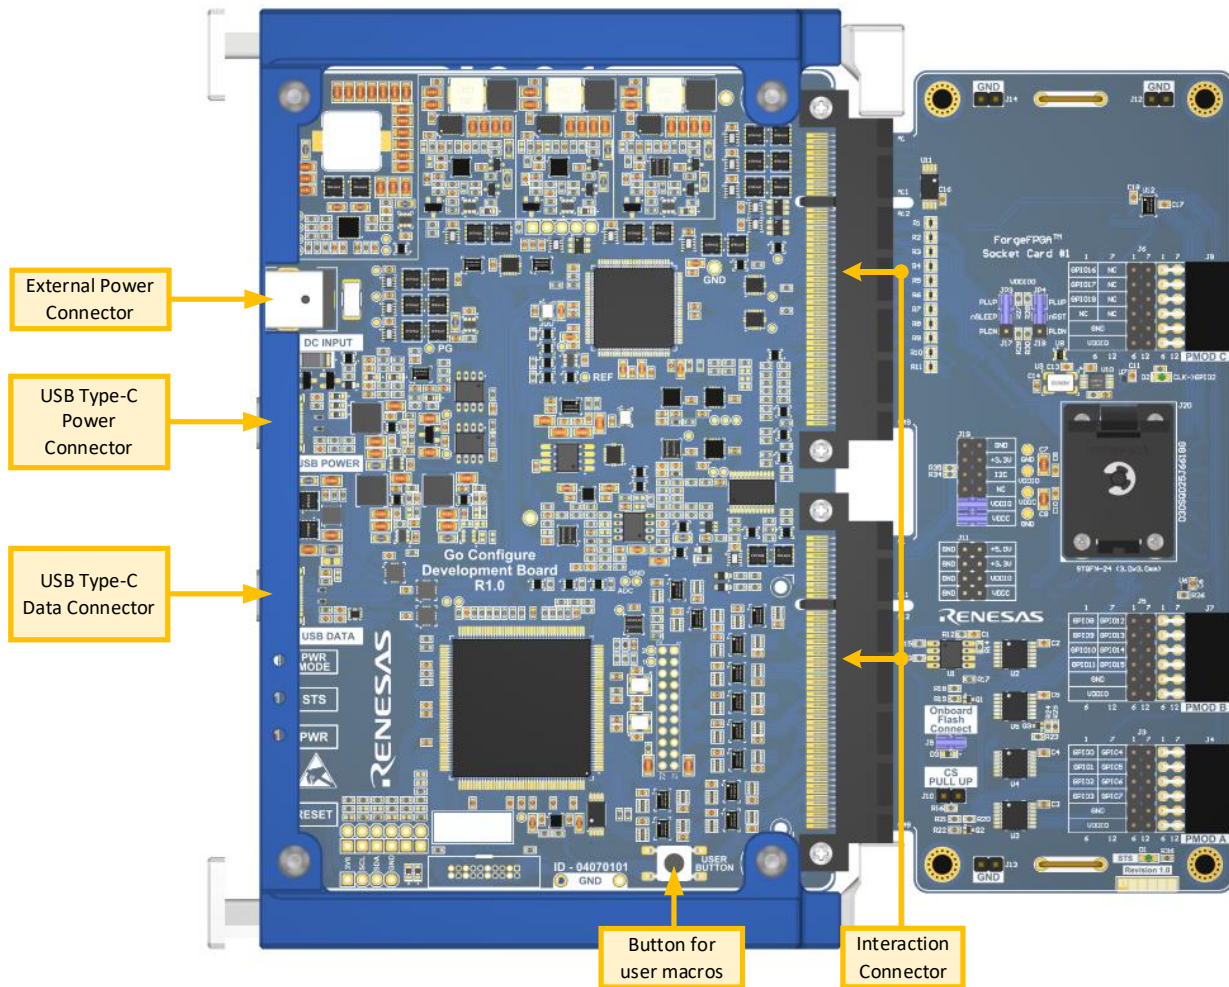

Figure 10. Development Kit
**Important:** The USB cable should be connected directly to the PC. Avoid using USB hubs or docking stations. Ensure the Socket Card is properly connected to the Go Configure Development Board as shown on **Figure 10**.